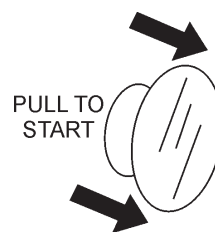

Figure 14. Engine Start/Stop Button
5. Located at the rear of the mixer frame is the main **start/stop** button (Figure 14). Pull this button outward to start the engine.